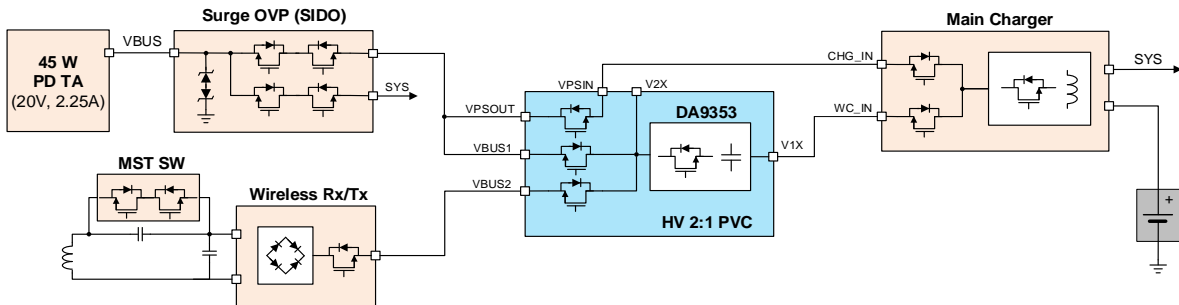

Figure 7: DA9353 Charging System Diagram 1
- Dual power sharing: USB OTG (5 V) and wireless RX/TX; Charging System Diagram 1, see Figure 7.